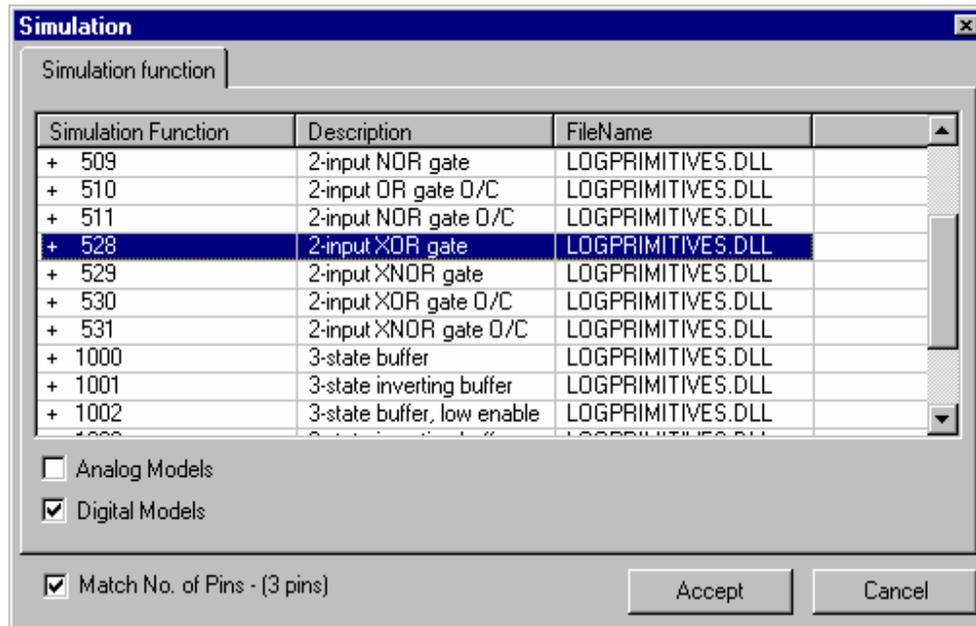

Fig. 3.11 Simulation Function
**Simulation Function**, a dialog box as in Fig. 3.11 listing the available Simulation Functions is displayed. Also, it is easier to get the Simulation Function by selecting the checkboxes **Match No. of Pins** and **Digital Models**; a list of all the digital components with the same number of pins appears. Select the one that matches the functionality of the symbol, for the **2XOR** symbol, this is **+528** and press **ACCEPT**.